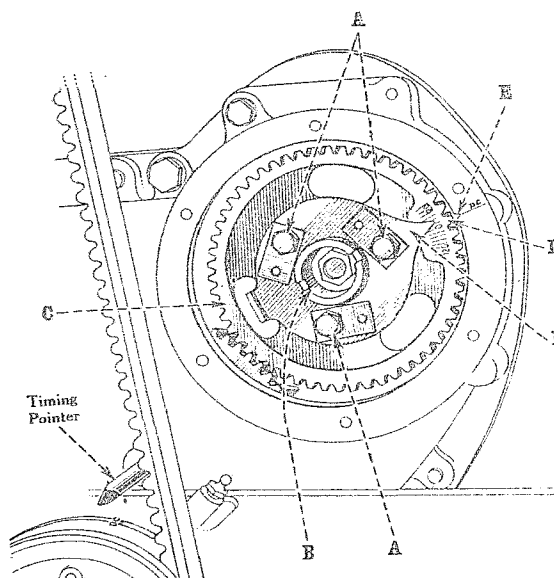

Figure 66. Timing the Fuel Injection Pump to the UD-14A Engine
(8) Crank the engine so the chamfered tooth (D), Fig. 66, on the injection pump gear, lines up with the "DC" mark on the crankcase front cover.
(1) If the timing has been disturbed while the injection pump has been removed, crank the engine until the No. 1 cylinder is at top dead center of the compression stroke. This position can be determined by removing the No. 1 spark plug and placing your thumb over the opening and cranking the engine slowly until an outward pressure is felt. Continue cranking slowly until the notch marked "DC" on the front flange of the fan drive pulley is in line with the timing pointer, Fig. 66, on the crankcase front cover.
(2) Assemble a new gasket to the pump mounting flange. Lift the pump into place against the crankcase front cover, inserting the pump gear hub into the pump gear and lining up the notch in the gear hub with the notch on the front face of the gear.
(3) Secure the top of the pump mounting flange to the crankcase front cover with two cap screws.
(4) Assemble the injection pump gear on the gear hub (with the No. 1 cylinder at top dead center of the compression stroke) so that the chamfered tooth on the gear lines up with the "DC" mark on the crankcase front cover, Fig. 66. Under no conditions attempt to retime the engine by matching the "K" marks on the injection pump gear and the idler gear.
56. FUEL INJECTION PUMP TIMING. (UD-14A Engine) (See Fig. 66)
To change the location of the indicator, loosen the cap screws (A), Fig. 66, which hold the indicator and gear hub to the gear. Turn the gear hub until the indicator is at the desired position; then tighten the cap screws.